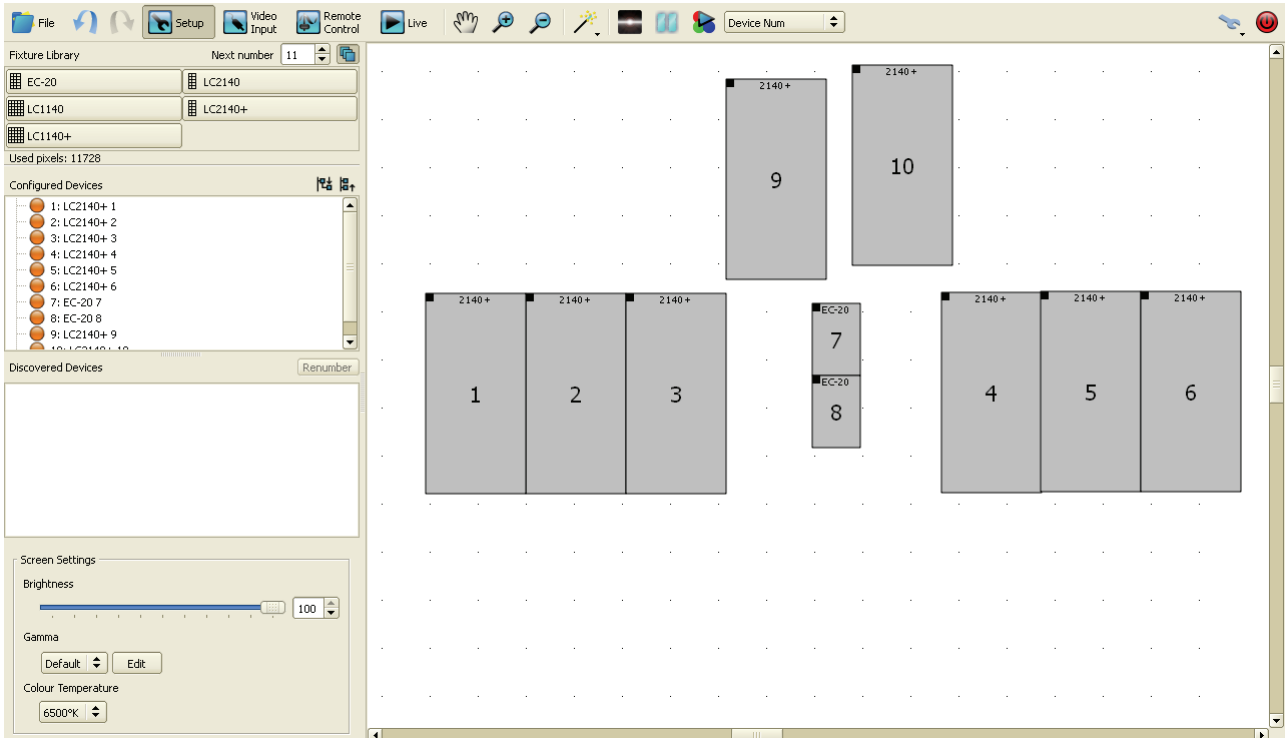

Figure 13: On-screen installation in Setup view
10. When you have added the correct number and type of panels to your on-screen installation, click on the currently selected panel type in the **Fixture Library** to deselect it and stop adding panels. Your on-screen installation could now look something like the example in Figure 13.